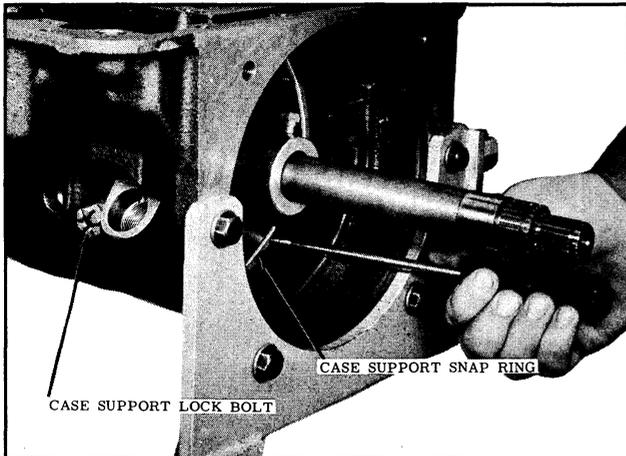

Fig. 3-41 Removing Case Support Snap Ring
snap ring from the front of the case. (See Fig. 3-41)
2. Remove the case support lock bolt from the side of the transmission. (See Fig. 3-41)